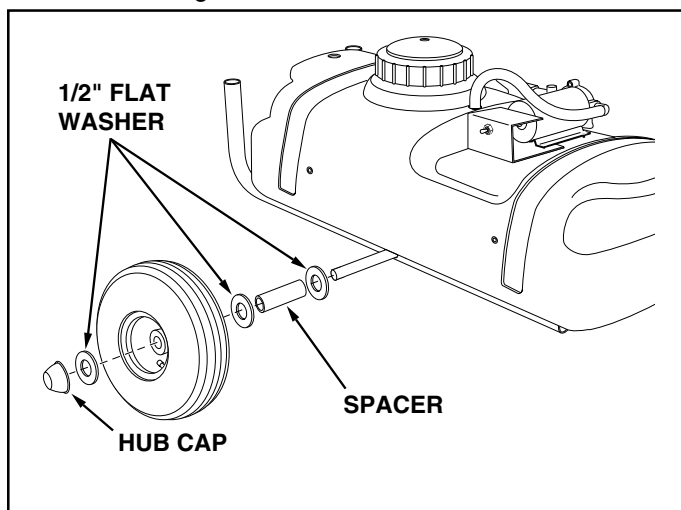
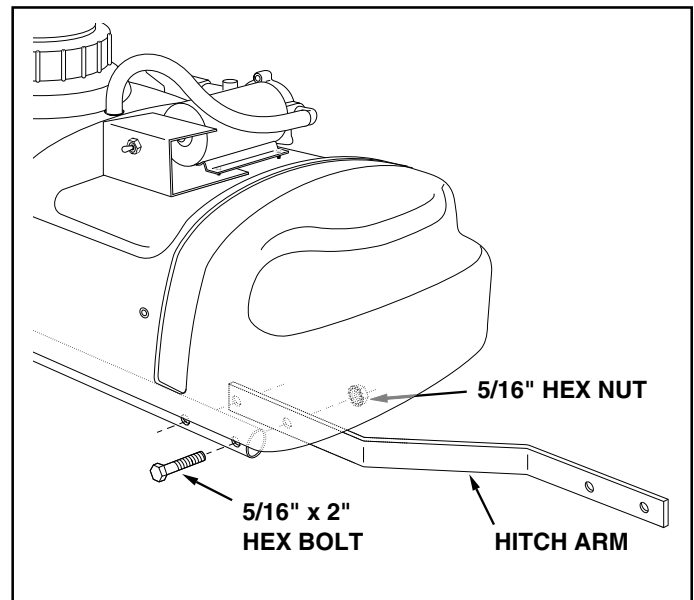
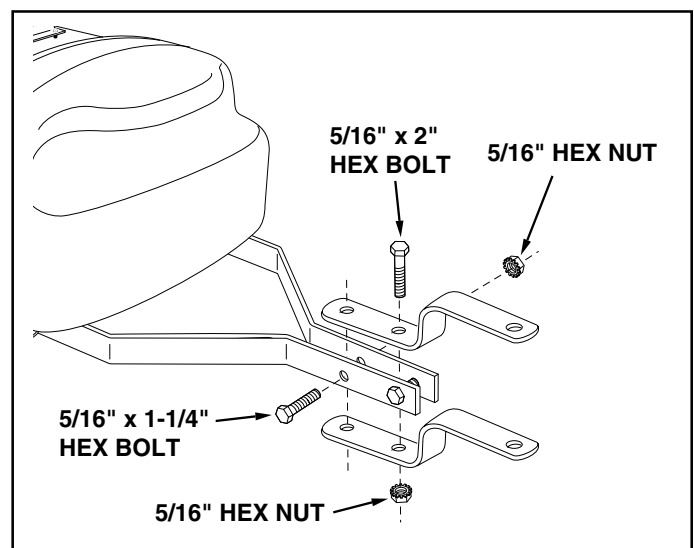

FIGURE 1
FIGURE 2
FIGURE 3
Your sprayer carton contains parts as shown in figure 1. The hardware package contains parts as shown in figure 2. Identify all parts and layout as shown in figures 1 and 2.
2. Assemble the axle through the large holes in the frame tubes. If the axle will not fit, slightly loosen the bolts in the frame tubes to align the holes. Retighten the bolts after assembling axle. See figure 1.
3. Assemble a 1/2" flat washer, a spacer, a second 1/2" flat washer, a wheel (valve stem facing out) and a third 1/2" flat washer onto the axle. Lightly tap a hub cap onto the end of the axle. Repeat on other end of axle. See figure 1.
4. Assemble a hitch arm to the inside of a frame tube underneath the tank. Use two 5/16" x 2" hex bolts and 5/16" hex nuts as shown in figure 2. **Do not tighten yet.** Repeat for other side.
5. Fasten the ends of the hitch arms together using two 5/16" x 1-1/4" hex bolts and 5/16" hex nuts. **Do not tighten yet.** See figure 3.
6. Assemble the hitch brackets to the hitch arms using two 5/16" x 2" hex bolts and 5/16" hex nuts. Position each bolt behind one of the cross bolts in the hitch arms. **Do not tighten yet.** See figure 3.
- At this time **tighten all bolts** starting with the bolts in figure 2, then the bolts in figure 3.